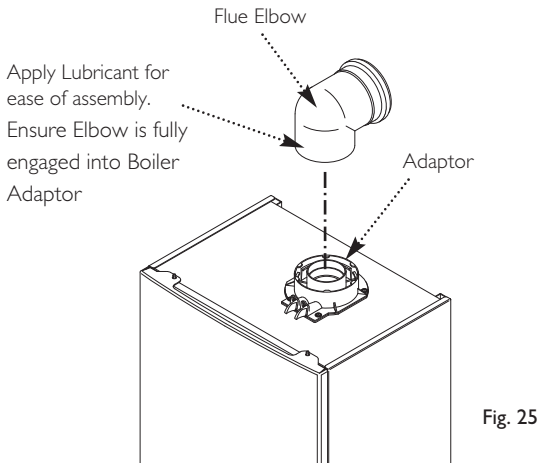

Fig. 25
11. Refit the elbow to the boiler adaptor, ensuring that it is pushed fully in (Fig. 25).